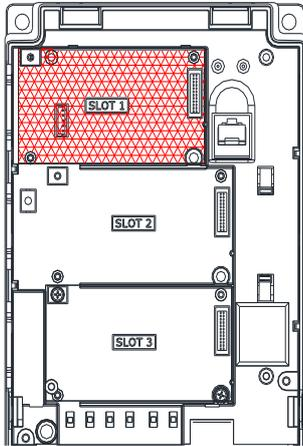

Figure 1
Step 1 : As Figure 1 shows, please insert EC301 board into the control board SLOT 1, neither SLOT 2 nor SLOT 3.